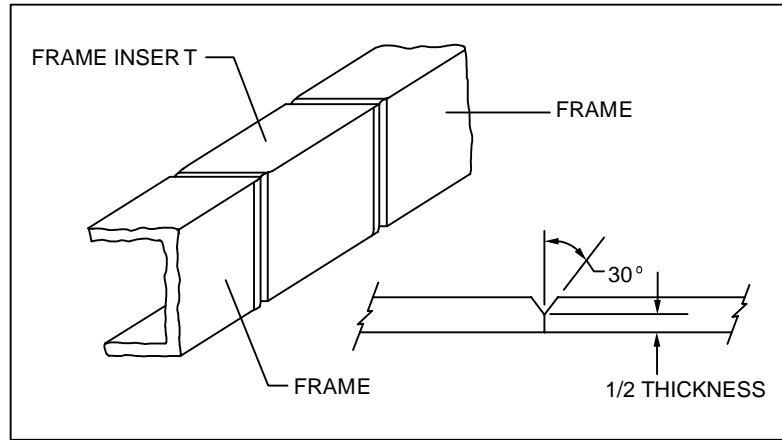

FIGURE 5
- Chamfer the outside edges of both the frame cut and the insert ends at a 30° angle, leaving half of the thickness (Figure 5).